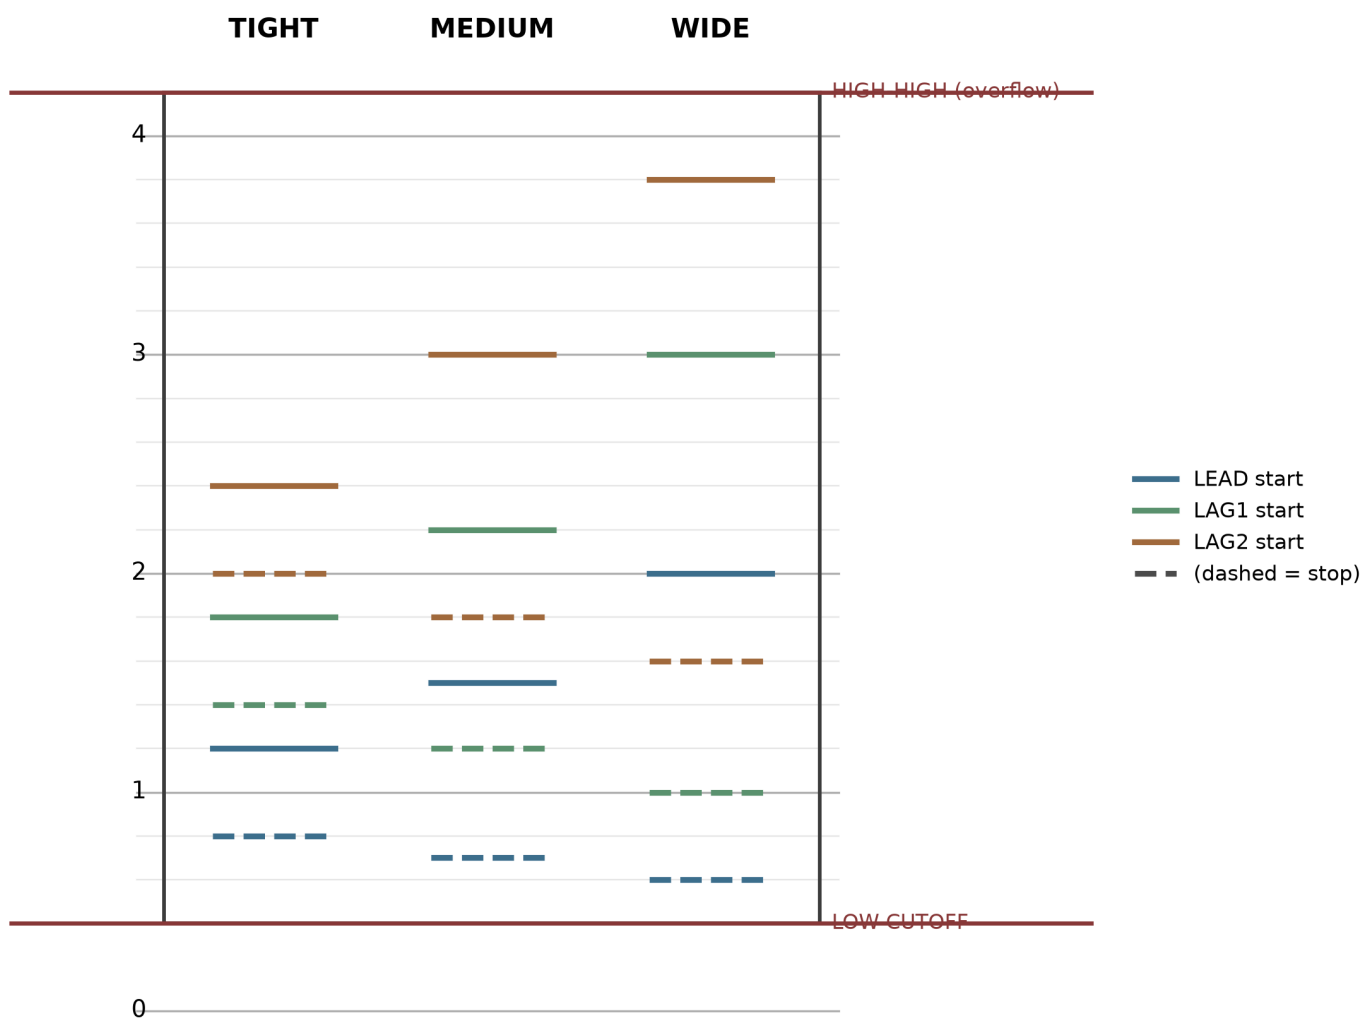
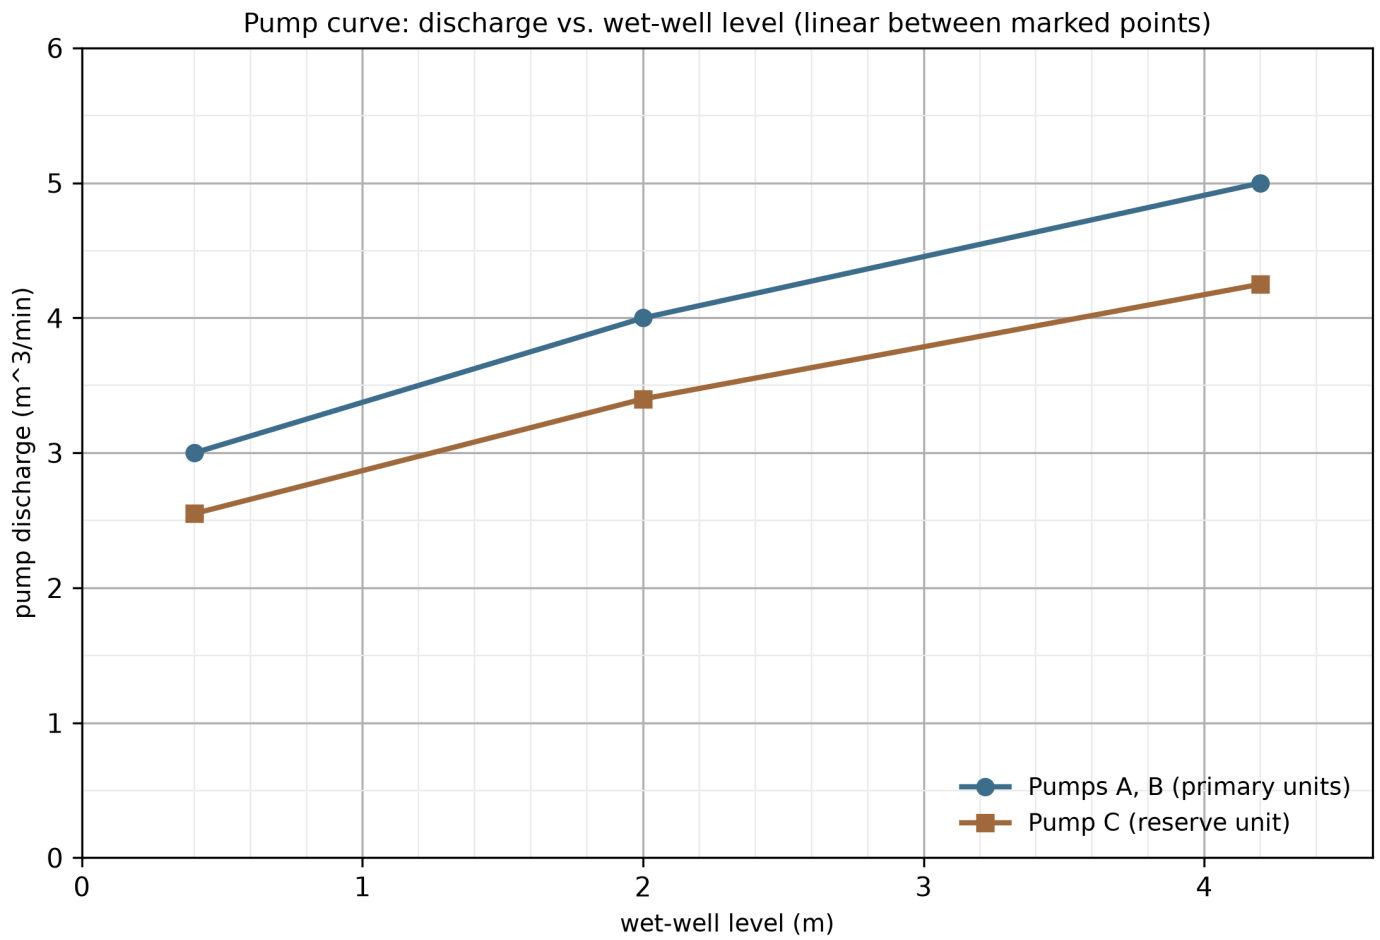
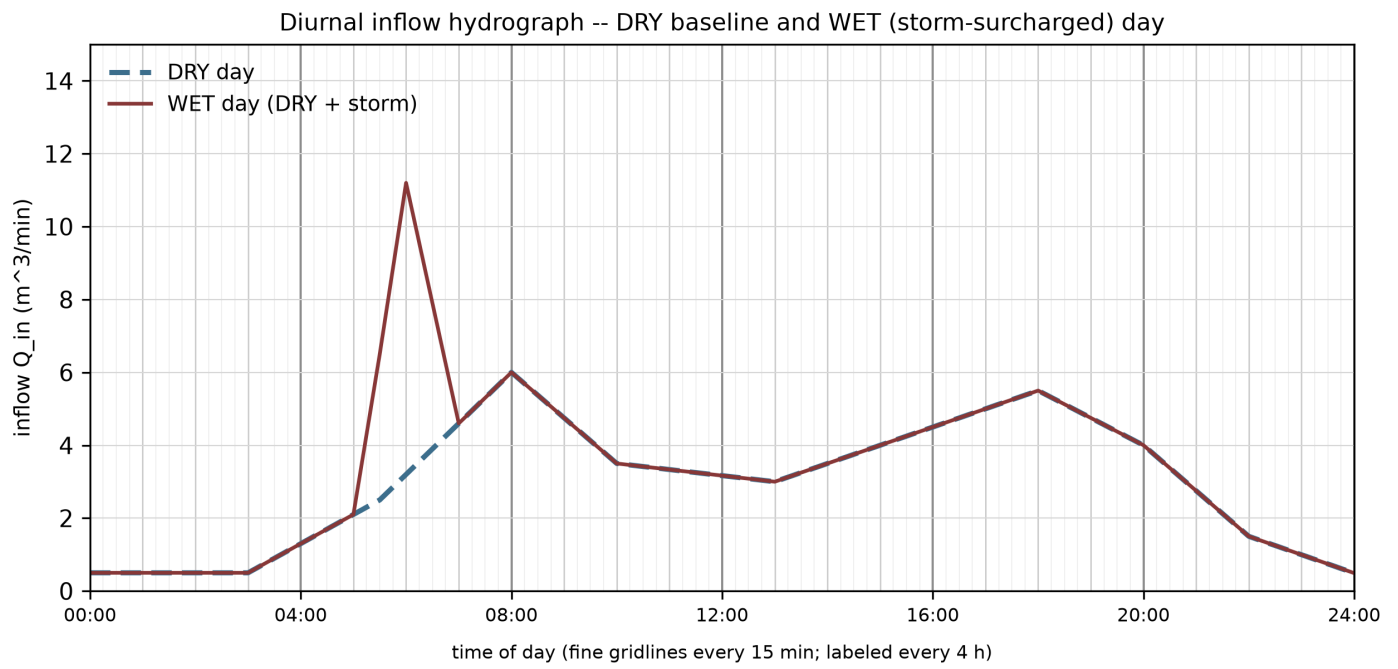

Figure 1 -- Wet-well cross-section. Role start/stop elevations by deadband setting.
Figure 2 -- Pump curve: discharge vs. level. Compare A/B's curve to C's to read C's scale.
Figure 3 -- Diurnal inflow hydrograph, DRY and WET days.
One simulated day is 1440 one-minute ticks, $t=0$ (00:00) through $t=1439$ (23:59), run to completion -- never a shortened or sampled run. The wet well is a vertical tank of constant plan area 60.0 m^2 . $\text{level}(t)$ is a single continuous state, updated each tick from that tick's own inflow and pump discharge (see Figures 3, 2): $\text{level}(t+1) = \text{level}(t) + (Q_{\text{in}}(t) - Q_{\text{out}}(t)) / 60.0$, clamped to $[0.4, 4.2] \text{ m}$ (Figure 1). Whenever the unclamped update would exceed 4.2 m , the excess volume (times 60.0 m^2) is a spill added to overflow_volume for that tick, and level is clamped to exactly 4.2 m .
2. INFLOW (Figure 3)
3. PUMP CURVE AND STAGING (Figures 1, 2)
Three pumps A, B, C. Each running pump's discharge is interpolated from Figure 2 against the current $\text{level}(t)$; pump C's curve is scaled relative to pumps A/B's (read the exact ratio from Figure 2 at any level). A non-running pump discharges zero. Each pump fills one of three roles each tick -- LEAD, LAG1, LAG2 -- assigned fresh each tick: LEAD holds whichever pump is currently offered that role (rotation policy, item 5); the remaining in-roster pumps fill LAG1 then LAG2 in ascending pump-ID order. A role's pump starts when $\text{level}(t)$ reaches that role's own start elevation (Figure 1) and it is currently off; it stops when $\text{level}(t)$ falls to that role's own stop elevation and it is currently on, EXCEPT that a stop is deferred while the pump is blocked by its minimum-run timer (item 4). Only the lowest-ID duty_pump_count pumps (a sweep knob: 1, 2, or 3) are ever in service; pump C is the first excluded as the roster shrinks. A pump outside the roster never runs.
`day_type` is weather, not a control setting -- it is never a free dimension a selection optimizes over. The legal configuration space is `duty_pump_count` x `rotation_policy` x `deadband` x `min_run_time` = {1,2,3} x {STRICT_ALTERNATE, RUNTIME_BALANCED, FIXED_LEAD} x {TIGHT, MEDIUM, WIDE} x {SHORT, LONG} = 54 configurations; deadband elevations are fixed per setting (Figure 1) and not independently swept. Every configuration is evaluated as a PAIR of full 1440-tick runs, one per `day_type` -- the sweep table has 54 x 2 = 108 rows, but a selection is always over the 54 configurations, scored by both of a configuration's own two rows together, never by picking whichever day happens to be cheaper. For configuration k : $E(k)$ = combined DRY+WET energy cost; $P(k)$ = worse-day peak level; $\text{imbalance}(k)$ = worse-day (highest single pump's run-minutes / that day's total fleet run-minutes); feasible iff `overflow_volume` is zero on both days. Report three lexicographic selections: